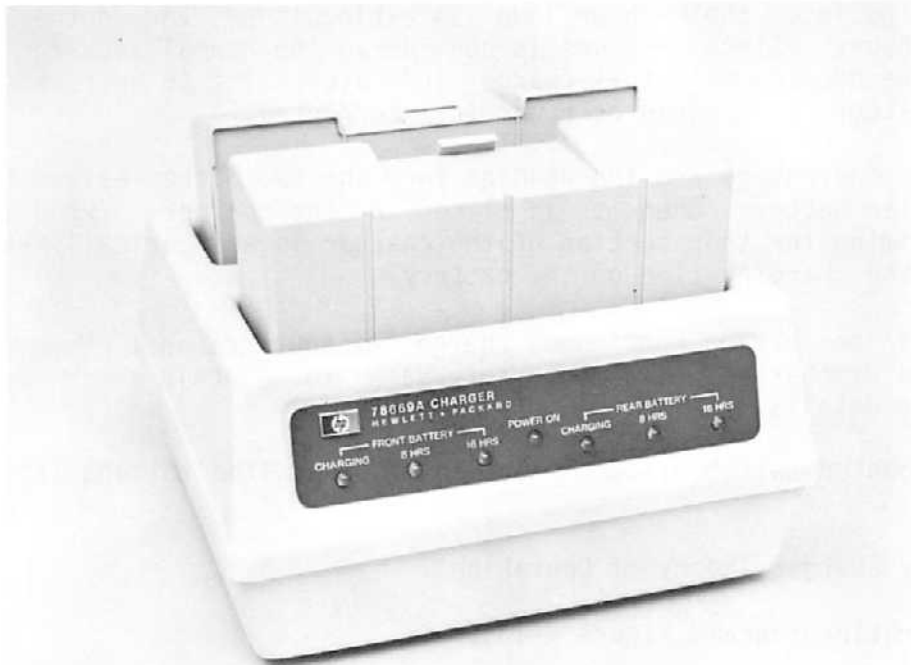

Figure 7-5. 78669A Battery Charger.
7.2.3 Indicator Lamps (See Figure 7-5).